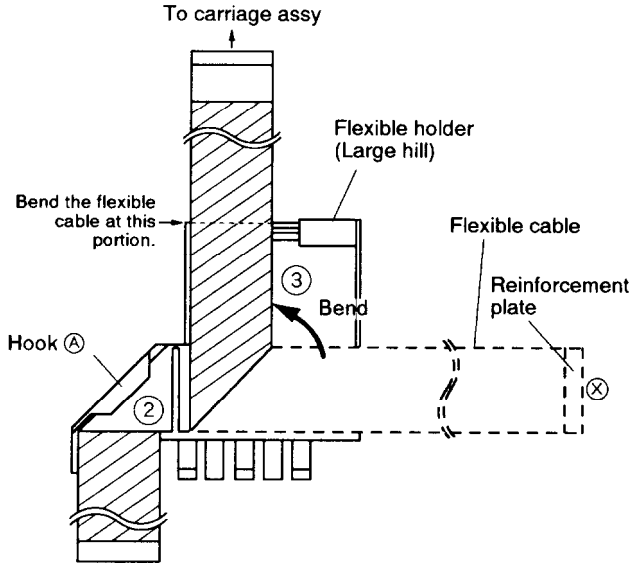

Fig. 16 Rear view of the flexible holder
2. Put the bended portion in step 1 to hook (A) of the flexible holder (large hill) in the rear of mechanism assy. (Fig. 16)